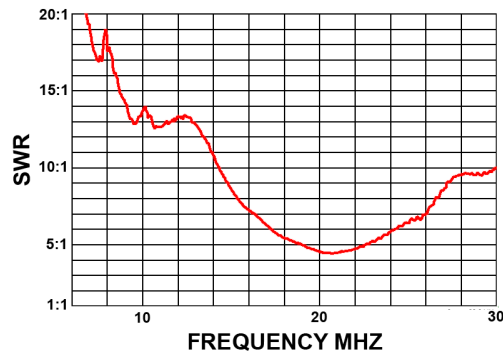

Figure 4: SWR vs. Frequency sweep at the feed point of the flagpole
Apart from the type of coax, loss in coax depends on three factors: (1) Coax Length (2) Operating frequency and (3) SWR. My length of (25 ft.) and my operating frequencies (the HF ham bands) were already known. To complete my loss picture with hard figures, I needed to measure the SWR my flagpole would present on each band. I obtained this data by performing an HF ham band SWR sweep with an SDRKit VNWA 3e Vector Network Analyzer, calibrated to read as if it were right at the feed point. Figure 4 shows the result.
Then finally to get hard loss figures, I entered the SWR data, 25 ft. and LMR400, into a handy little coax loss calculator I downloaded from the Internet. You can find it now on my Web Site; w6nbc.com/coaxloss.html. What % of my TX power reached the flagpole at the end of 25 ft. of LMR400 at is plotted in Figure 4. The red line show the amount of loss needed to give a drop of one S-point at the receiving station.